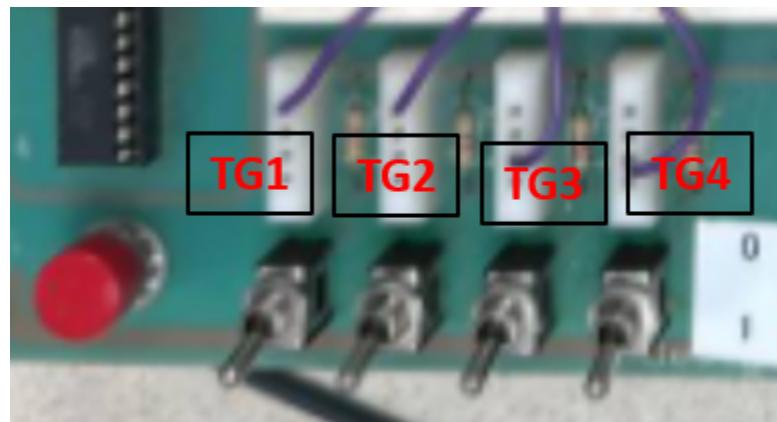

Figure 4: Toggle switches in keyboard control mode
The initial waveform and changing of control mode can be triggered by toggle switches. To generate the initial waveform, set all 4 toggle switches in DOWN(1) state, as shown in Figure 4. The toggle switch 2 is used to toggle between DAQ control and keyboard control mode:
- To enable keyboard control mode, set toggle switch 2 in DOWN(1) state as shown in toggle switch 2 (TG2) of Figure 4. The waveform parameters can then be adjusted by the arrow keys and spacebar on the keyboard.